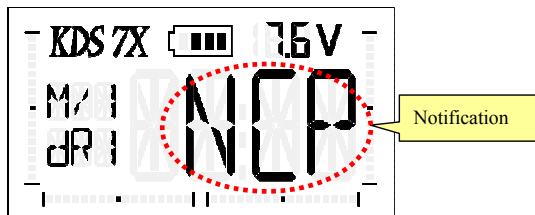

Figure27 - NCP setting
3. Hold ESC button until the screen of transmitter will display 'NCP' like Figure 27, and the RF led shines, and the led of receiver will go out at the same time.